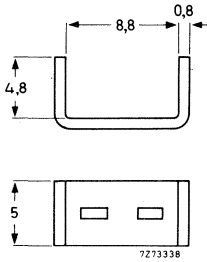

Fig. 4a. Metal mounting bracket
- metal bracket for panel mounting of connectors in series, catalogue number 4332 026 00730, Fig. 4a, and metal bracket, catalogue number 4332 026 00720, Fig. 4b.